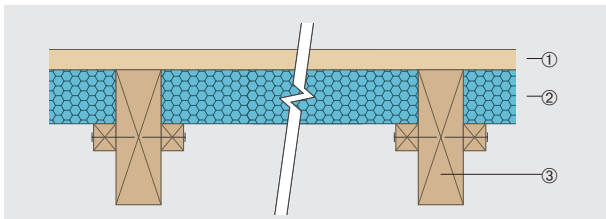

Figure 46 >> FLOORMATE boards between joists
- » between joists (figure 46).